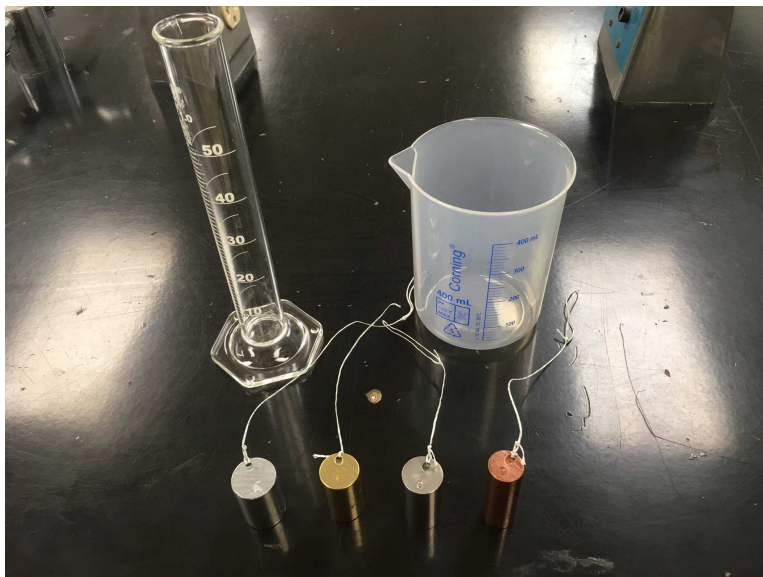

Figure 3: The mass set, graduated cylinder, and plastic beaker used in today's experiment.
1. First, using four different metal objects labeled A, C, D, and E, we will measure the masses of each using the **Ohaus** Beam Balance. Each of these objects (see Figure 3 on the next page) have different densities. You will be determining the density of each and making comparisons to the densities of various metals listed in Table 2. Each mass has a small hole in one end allowing it to be attached to a short length of string with a loop at the other end.